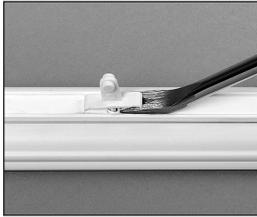

Figure 2
3. To remove broken cufflink, insert beveled end of tool under cufflink (*fig. 2, next page*), then press downward on handle of tool to pry cufflink free.